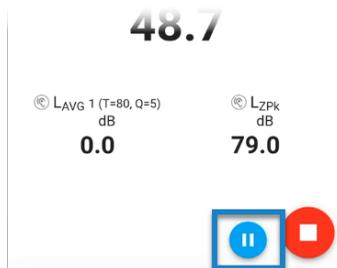

Figure 3-11. Recording Pause Button
7. To pause your recording, touch the pause button (see Figure 3-11). To enter some notes about the reasons the recording was paused, touch the pencil icon .